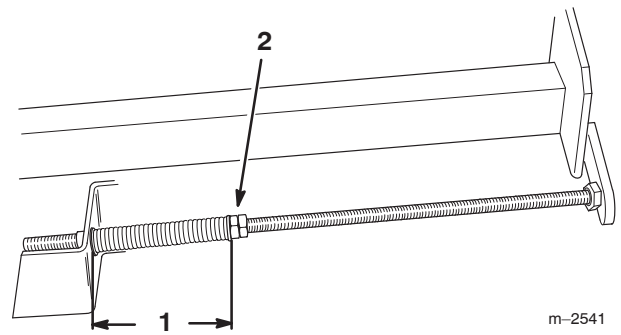

Figure 50
- Belt Guide (2)
- Tighten the jam nuts on the adjusting shafts until the springs are compressed to a length of 5 inches (12.7 cm) (Fig 50).